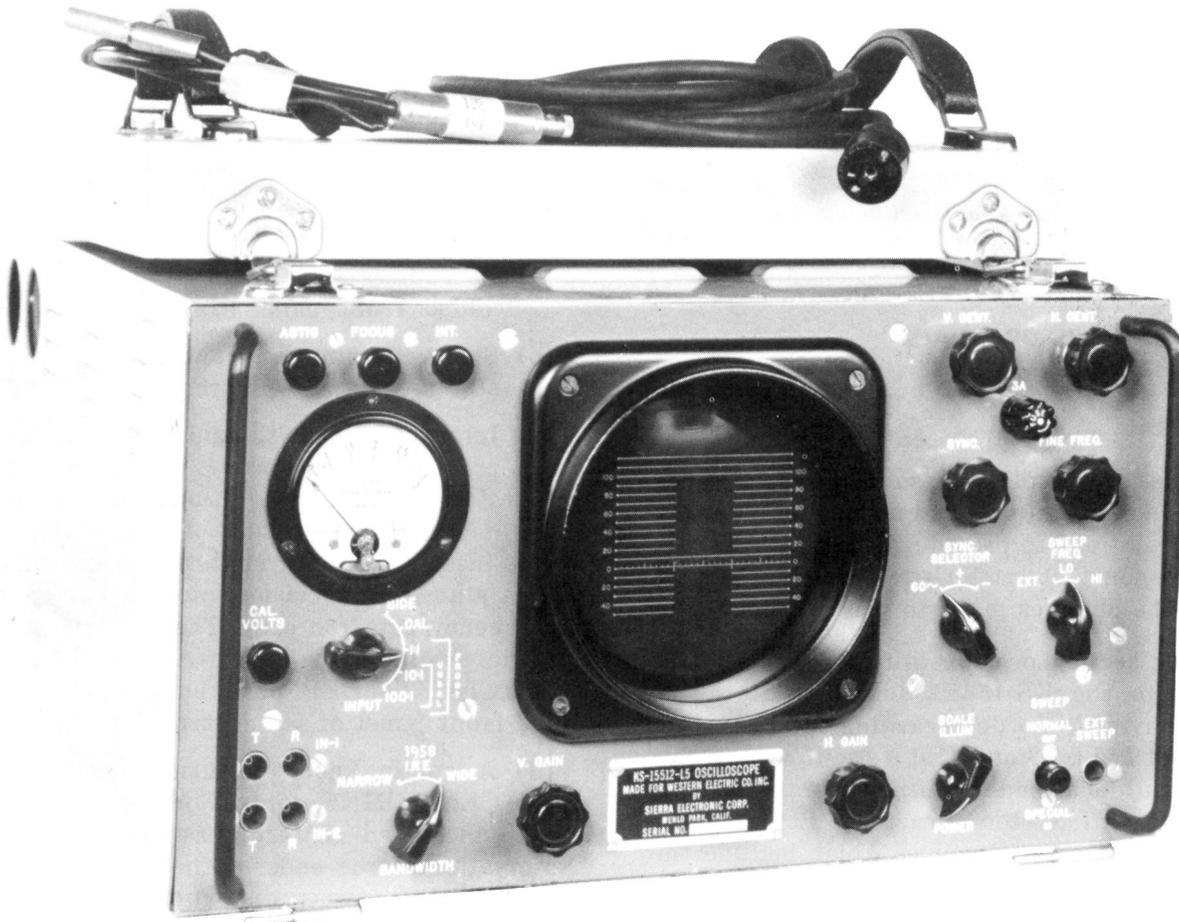

Fig. 1 – KS-15512, List 5 Oscilloscope
2.01 The KS-15512, List 5 oscilloscope is illustrated in Figs. 1 to 3 which show the front view and the top and bottom views with cover removed.